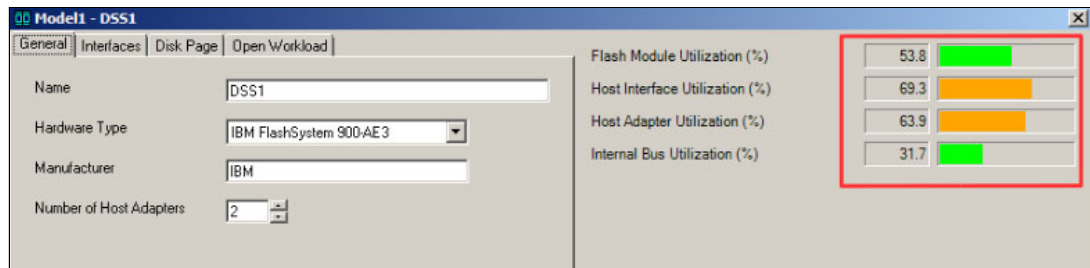

Figure 17 IBM FlashSystem 900-AE3 component utilization
- ▶ Figure 17 shows component utilization for IBM FlashSystem 900-AE3. There are some components utilized higher than expected. The results of this modeling should be reevaluated or system settings should be adjusted.